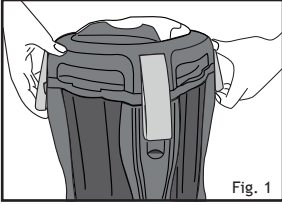

Fig. 1
1. Open the filter unit. To do this, release the 4 clips located on the corners of the filter. Fig. 1